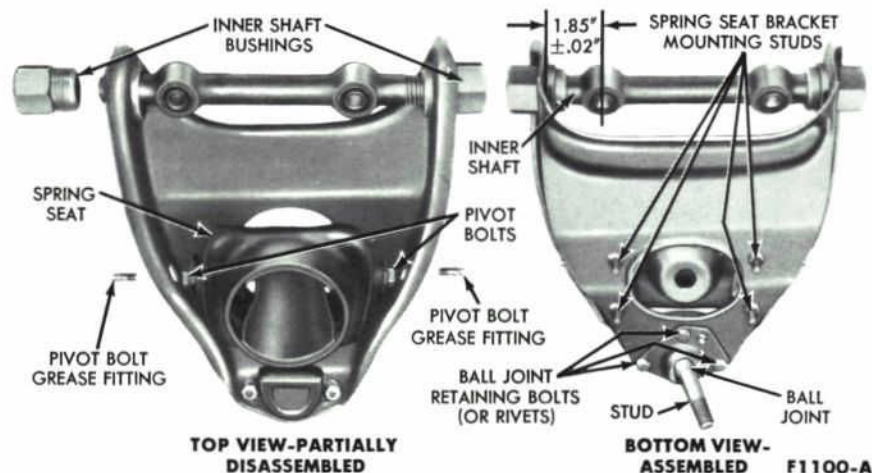

FIG. 103—Upper Suspension Arm
4. Remove the stud nuts that secure the spring lower seat assembly to the upper arm (Fig. 103). Remove the grease fittings from the pivot bolts (spring seat bushings), then remove the spring seat assembly from the arm.
2. Position the shaft in the arm, apply grease to the new bushings, and install the bushings loose on the shaft and arm. Turn the bushings so that the shaft is exactly centered in the arm. The shaft will be properly centered when located at the dimension shown in Fig. 103.